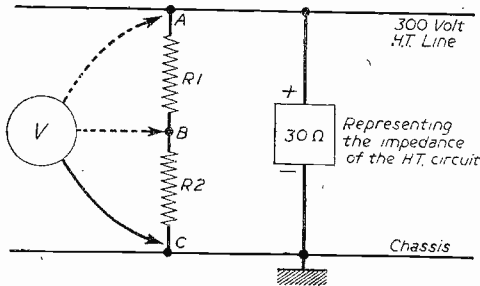

Fig. 64.—Illustrating the effect of voltage measurements across a load.
**B**EFORE we continue it will be instructive to get this point clear and settled once and for all, for it is surprising—as revealed by our Query Service—the number of experimenters who appear unaware of the errors of their tests. Fig. 64 shows a potential divider comprising R1 and R2 connected between the H.T. line (300 volts positive) and chassis (negative) of a television receiver. The 30-ohm box also connected across the H.T. line is not an actual resistor, but simply represents the total impedance of the H.T. network.
Now to get back to the symptom of uncontrollable brilliance and Fig. 64. We shall almost certainly discover that a potential positive relative to chassis does exist at the picture-tube grid. There is, of course, the possibility that the brightness control itself is open-circuit at the earthy end, in which case the grid will remain at a steady potential irrespective of brightness control setting.